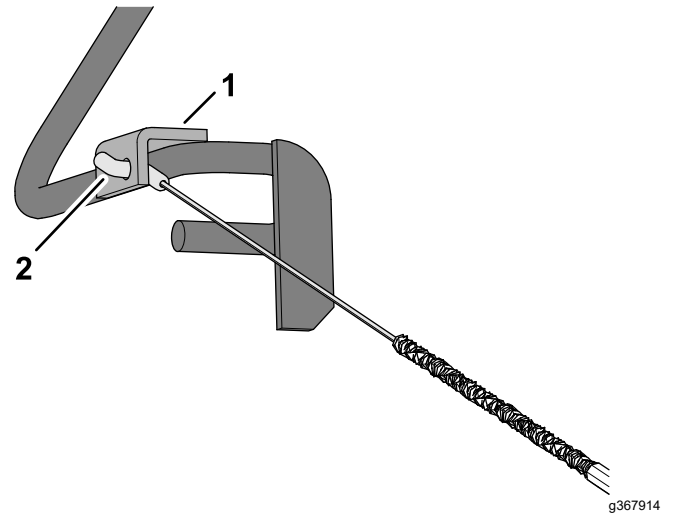

Figure 10
2. Insert the cable fitting through the hole in the bracket of the operator-presence bail as shown in Figure 10.